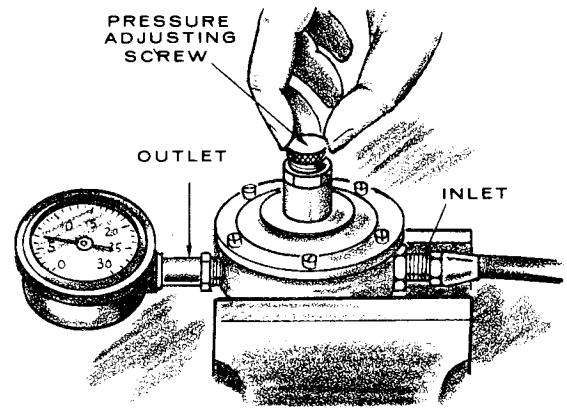

FIGURE 11. VAPORIZER ADJUSTMENT
1. Place vaporizer in a vice or other suitable clamp. Attach an air hose from an air supply of about 75 psi (518 kPa) to the inlet, Figure 11.